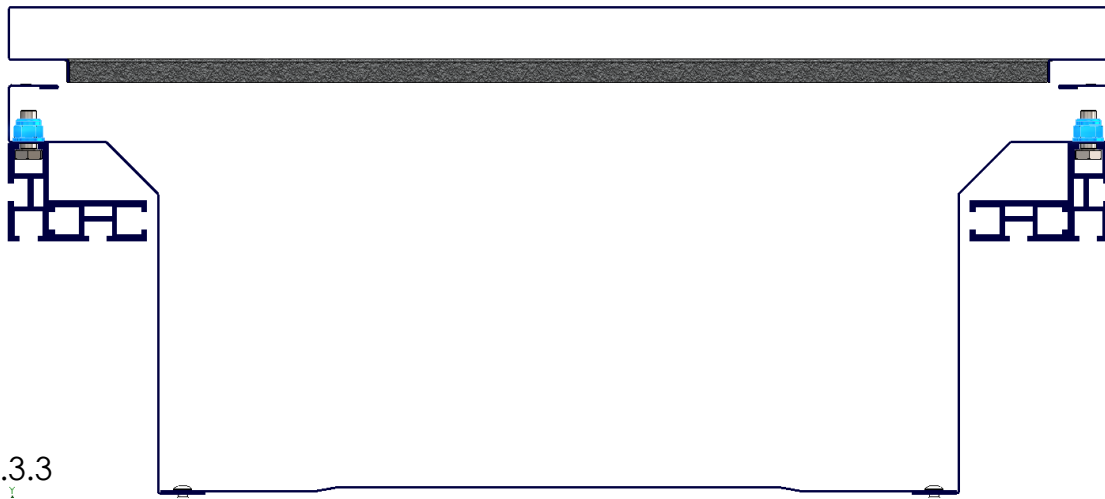

Fig. 2.3.3
- Once the lock box is resting on top of the ammo box rack with the position confirmed, secure the lock box with 1 x M8 flat washer and 1 x M8 nyloc nut on each screw. Fig. 2.3.3